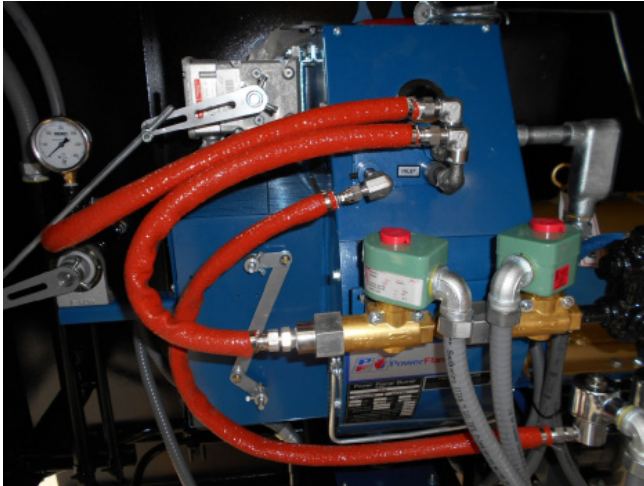

FIGURE 12- LINKAGE COMPONENTS
6. Check all linkage components for tightness. (Figure 12).